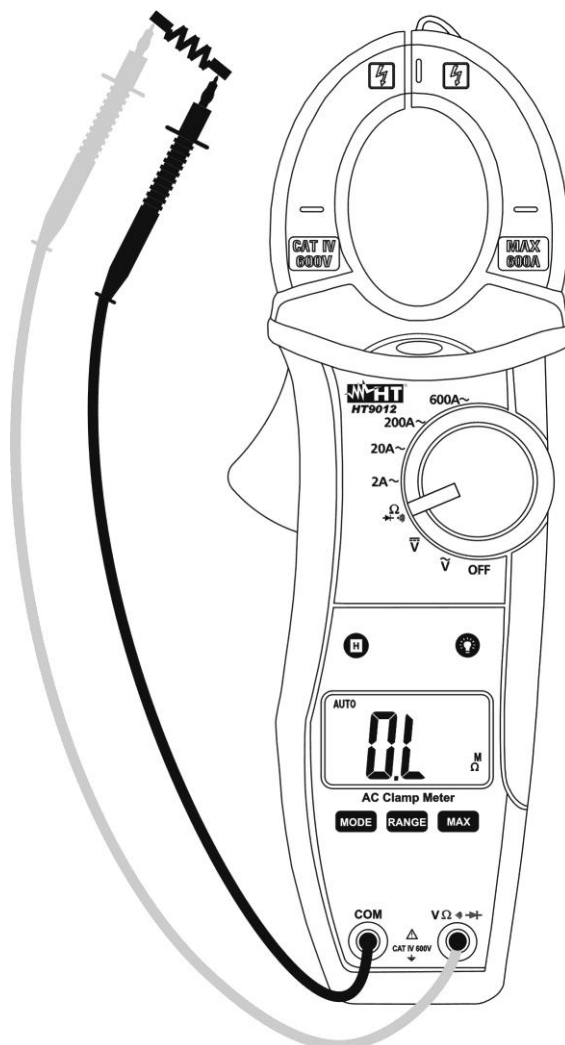

Fig. 6: Taking resistance measurement
4. Connect the two long ends of test leads to the desired circuit (see Fig. 6) then reading value of resistance will be displayed